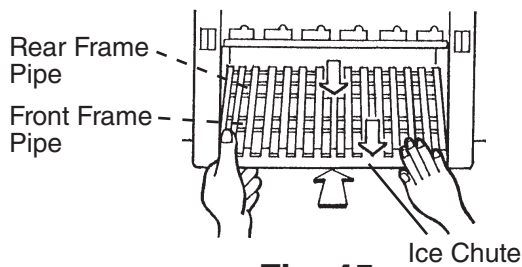

Fig. 45
- 13) Position and lock the ice chute onto the front and rear frame pipes by pushing the ice chute down until it clicks onto both frame pipes. See Fig. 45.